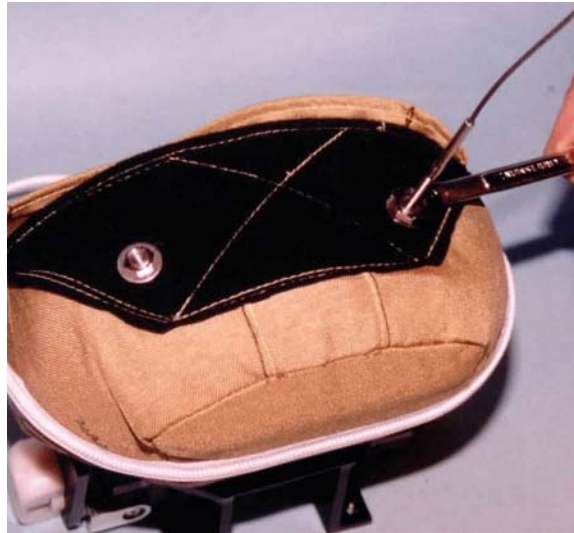

Figure 10.19- Securing of cable to outside of bag
24. Secure the DGSP unit to the front of the lower abdomen assembly using the washer and panel nut. Tighten the panel nut {½" crescent wrench} until it is flush with the threaded end of the U-Joint, as shown in **Figure 10.19**.